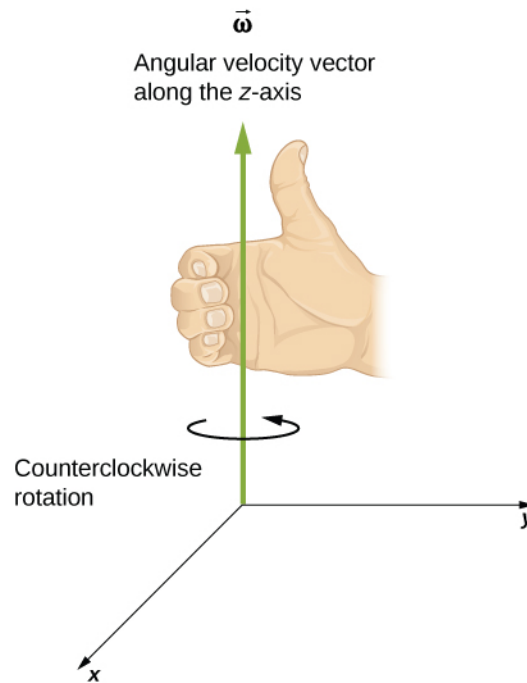

Figure 10.5 For counterclockwise rotation in the coordinate system shown, the angular velocity points in the positive z-direction by the right-hand-rule.
Up until now, we have discussed the magnitude of the angular velocity $\omega = d\theta/dt$, which is a scalar quantity—the change in angular position with respect to time. The vector $\vec{\omega}$ is the vector associated with the angular velocity and points along the axis of rotation. This is useful because when a rigid body is rotating, we want to know both the axis of rotation and the direction that the body is rotating about the axis, clockwise or counterclockwise. The angular velocity $\vec{\omega}$ gives us this information. The angular velocity $\vec{\omega}$ has a direction determined by what is called the right-hand rule. The right-hand rule is such that if the fingers of your right hand wrap counterclockwise from the x -axis (the direction in which θ increases) toward the y -axis, your thumb points in the direction of the positive z -axis (**Figure 10.5**). An angular velocity $\vec{\omega}$ that points along the positive z -axis therefore corresponds to a counterclockwise rotation, whereas an angular velocity $\vec{\omega}$ that points along the negative z -axis corresponds to a clockwise rotation.
In the same way as we defined the vector associated with angular velocity $\vec{\omega}$, we can define $\vec{\alpha}$, the vector associated with angular acceleration (Figure 10.7). If the angular velocity is along the positive z-axis, as in Figure 10.5, and $\frac{d\omega}{dt}$ is positive, then the angular acceleration $\vec{\alpha}$ is positive and points along the +z- axis. Similarly, if the angular velocity $\vec{\omega}$ is along the positive z-axis and $\frac{d\omega}{dt}$ is negative, then the angular acceleration is negative and points along the -z-
- We are given the rotational sense of the turbine, which is counterclockwise in the plane of the page. Using the right hand rule (Figure 10.5), we can establish the directions of the angular velocity and acceleration vectors.